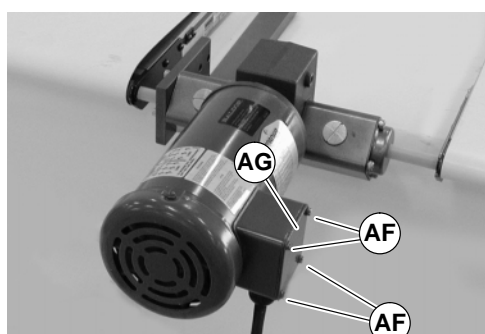

Figure 40
- a. Loosen terminal box screws (AF of Figure 40) and remove cover (AG).